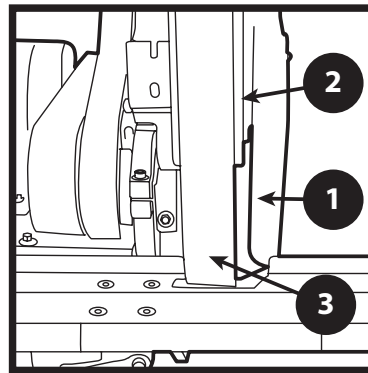

FIGURE 1
- a. The contact wheel guard and vertical platen are mounted and adjusted such that the platen lightly touches the back of the abrasive belt (Figure 1). See page 7 for complete instructions on installation.